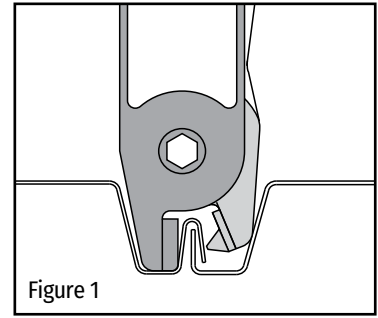

Figure 1
6. Place jaw over deck standing seam side lap. Be sure the tool is perpendicular to the metal deck and the tool is in contact with the deck bottom flange and oriented as shown. (see Figure 1)